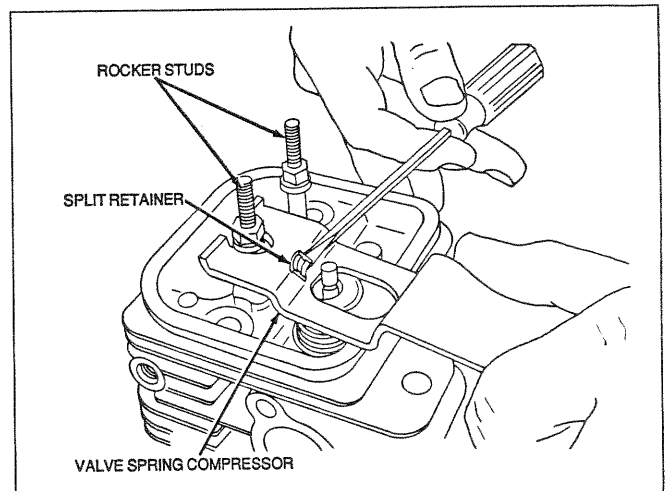

Figure 89. Split Retainer Removal
Refer to Figures 89 and 90. To remove the valves, proceed as follows:
- Insert end of a valve spring compressor (Figure 89) under the stud and over the valve spring.